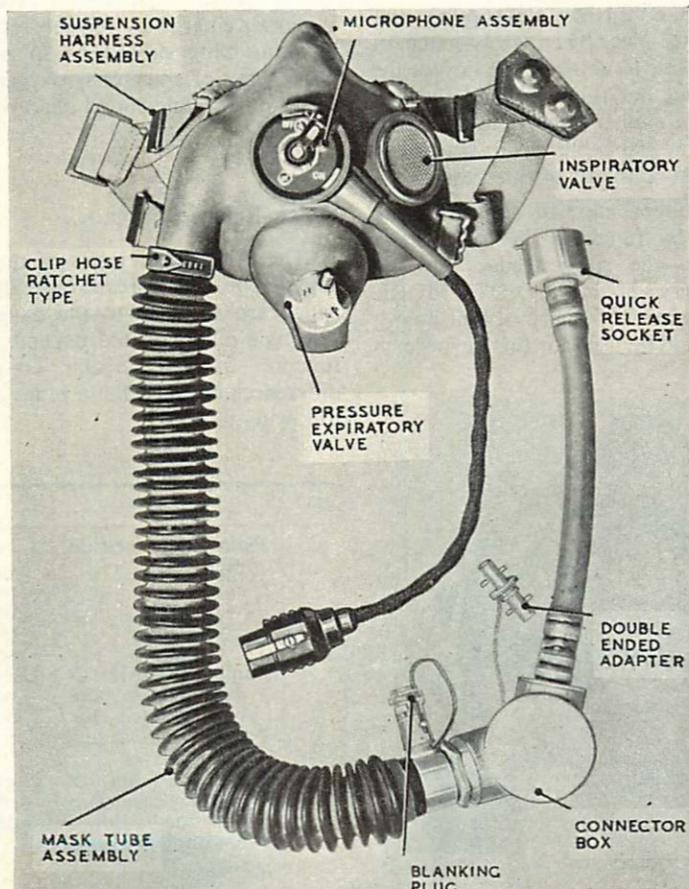
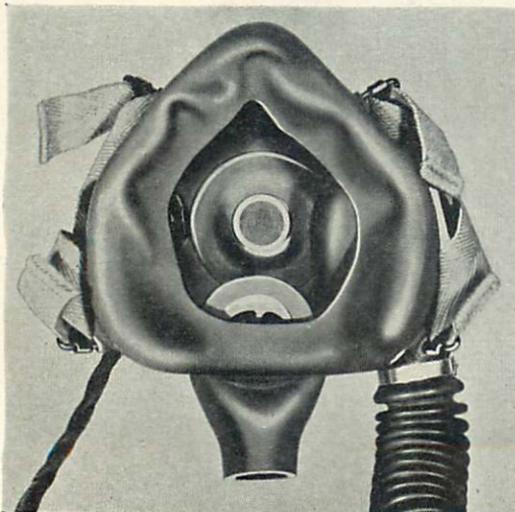

Fig. 3. Oxygen Mask, Type M.
Fig. 4. Interior of Type M Mask.
5. **Outlet Valve.** The outlet valve is fitted with a knob on the outside, adjustable to three positions, Off (O), Low (L), and High (H). These settings correspond to 0, 5 inches, and 12 inches of water pressure in the mask and waistcoat. The Low and High positions are used at the higher altitudes and the Off position at all altitudes up to 35,000 feet cabin altitude. The Low and High positions are used for pressure-breathing, and the Off position for normal breathing.
6. The Type M mask (Fig. 3) has been designed to eliminate difficulties experienced with the Type J mask, which it will eventually replace. It is appreciably lighter in weight and more comfortable to wear. Two new components are introduced; a redesigned face-piece and suspension harness. Other components such as valves and the mask tube assembly are identical with those used with the Type J mask or so similar as to make further description unnecessary. The face-piece (Fig. 4) is made of pure latex rubber and is unlined. It covers the nose and mouth but not the chin, and the seal is formed by a thin rubber edge. Incorporated in the nose strip is a malleable metal, which can be adjusted to improve the fit of the mask.